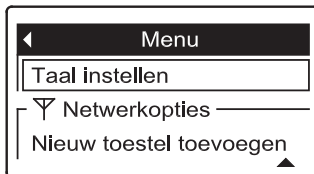

FIG. 109
From the rolling status screens, press SELECT (O). Press DOWN (▼) to scroll through the list until the line immediately **above** the antenna (Y) symbol is highlighted (See Figure 109), then press SELECT (O). Press UP (▲) to scroll to **English** at the top of the list, then press SELECT (O) twice. Press LEFT (◀) to exit the menu.